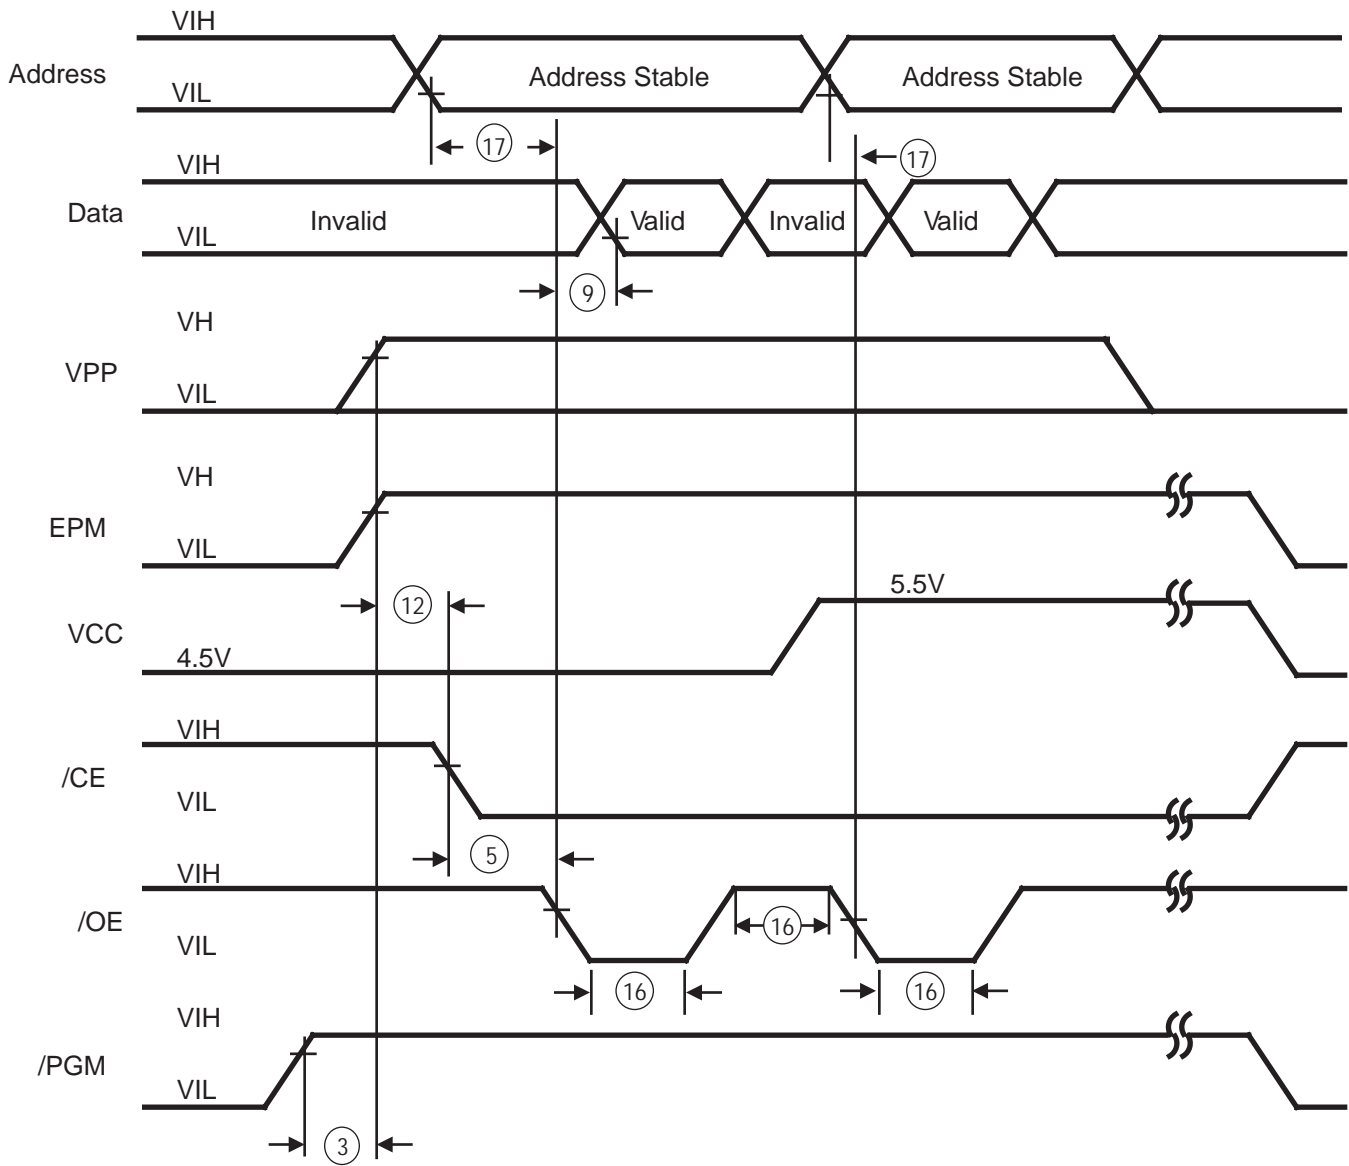

Figure 19. Z86E04/E08 Programming Waveform (EPROM Read)
**Programming Waveform.** Figures 19, 20 and 21 show the programming waveforms of each mode. Table 8 shows the timing of programming waveforms.